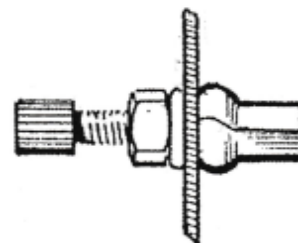

FIGURE 4
4. As the nut is turned, the fastener begins to draw within itself causing it to flare out. Continue tightening the nut until the fastener is secured to the tailgate. **DO NOT OVER TIGHTEN.** The desired shape of the installed fitting is shown in figure 4.